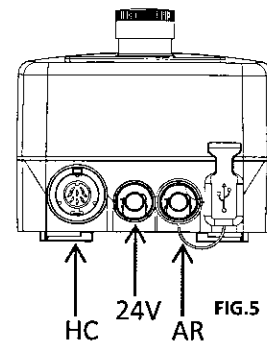

FIG.5
4. Connect the hand-control (HC), the 24V motor and the Actuator (AR) as illustrated. (FIG.5)